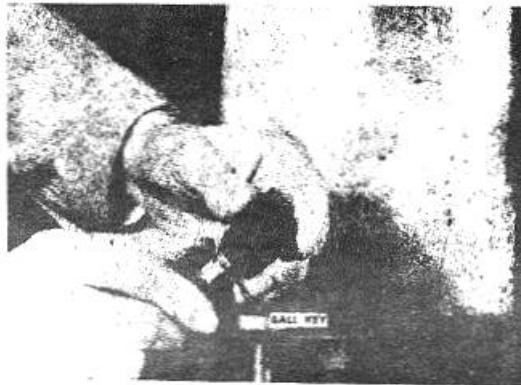

Figure 4-37. Assembling drive gear.
2. Remove the bearing snap ring and pull the bearing and drive gear. The drive gear is located over a ball key and care must be observed not to lose the ball. Fig. 4-37.
4. If the drive gear was removed press on a new gear, the gear must be pressed over the ball key. Fig. 4-37.